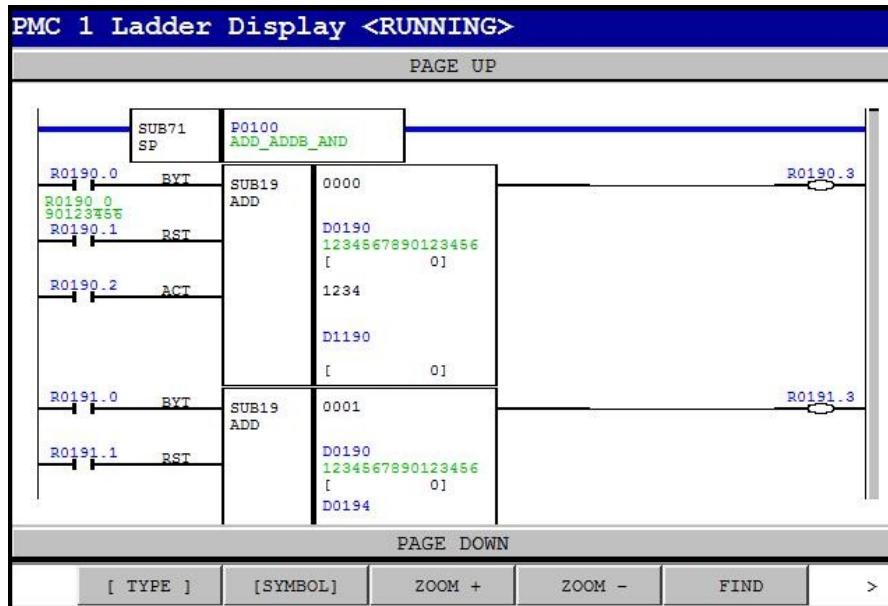

Fig. 6.3 (b) PMC sub-program
- 10 Touch the screen in the same level or subprogram a second time and a screen such as that shown in Fig. 6.3 (b) appears.